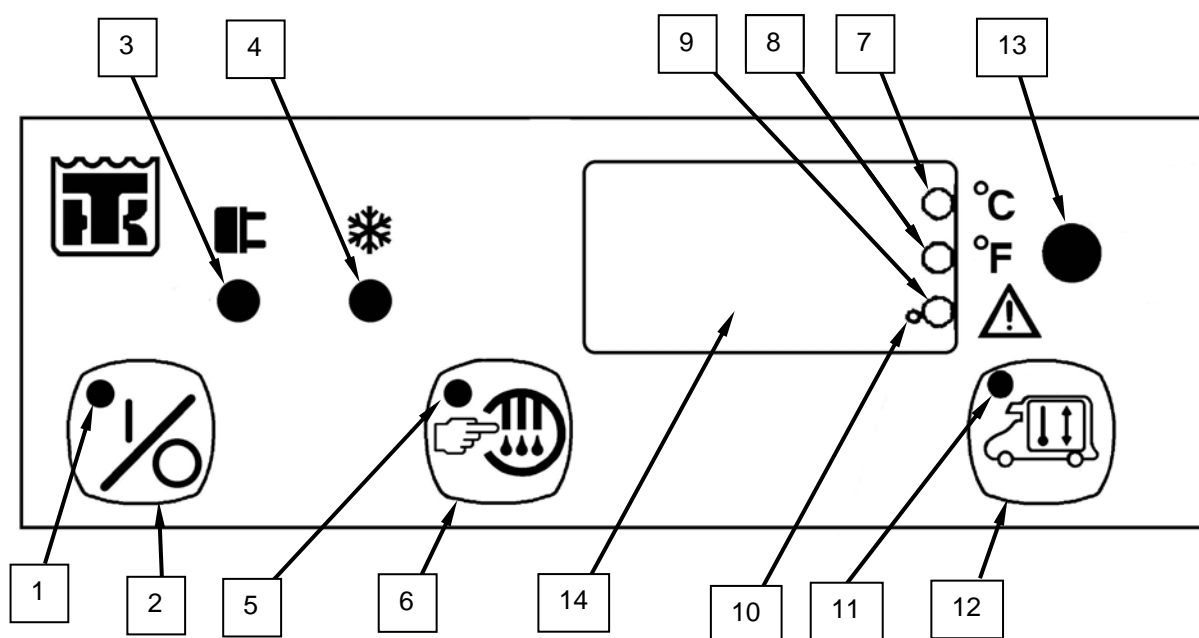

*Figure 2-5. Operating Controls and Indicators.*
- a. Details for operating controls and indicators of the Small Field Refrigeration System and associated components are given in Table 2-1 and shown in Figure 2-5.